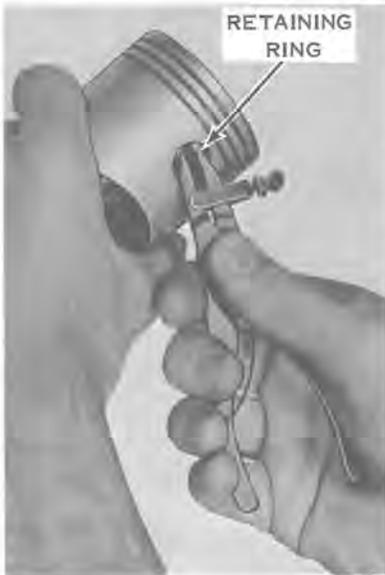

Figure 9-11
- n. If necessary to remove connecting rods from pistons, remove wrist pin retaining rings, using Truarc No. 1 pliers (Service Tool #303857) (see Figure 9-11). Press out wrist pin to free piston from connecting rod. See Figure 9-12. Piston wrist pin hole marked "Loose" should be up when pressing out wrist pin to prevent piston damage.